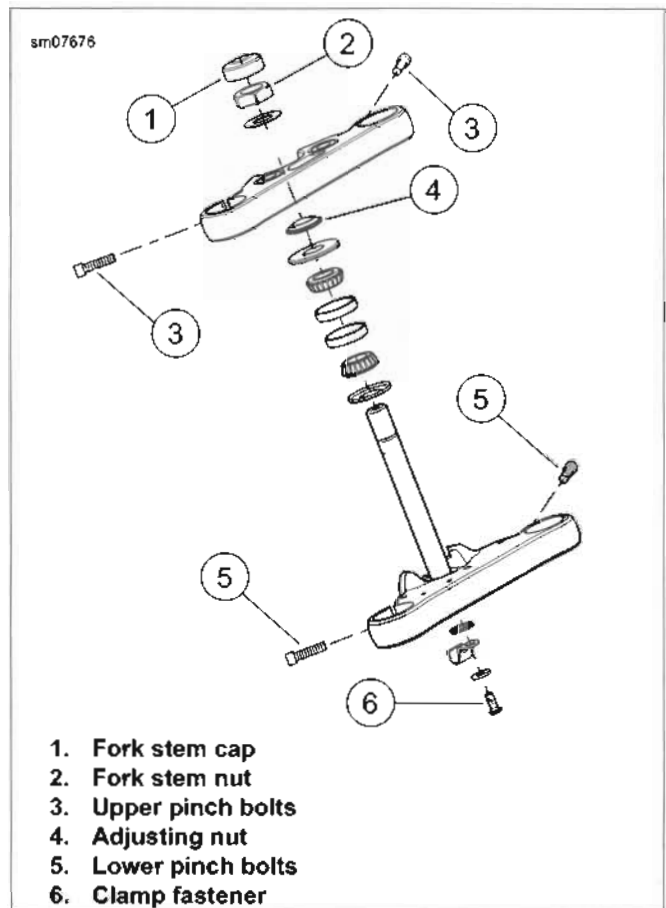

Figure 1-44. Steering Head: FXSB
- a. See Figure 1-44. Loosen the lower pinch bolts (5).
- b. Remove fork stem cap (1).
- c. Loosen the fork stem nut (2).
- d. Loosen the bearing adjustment nut (4) slightly.
- g. Install fork stem cap (1).
- a. See Figure 1-44. Loosen lower pinch bolts (5).
- c. Loosen fork stem nut (2).
- d. Tighten bearing adjustment nut (4) slightly.